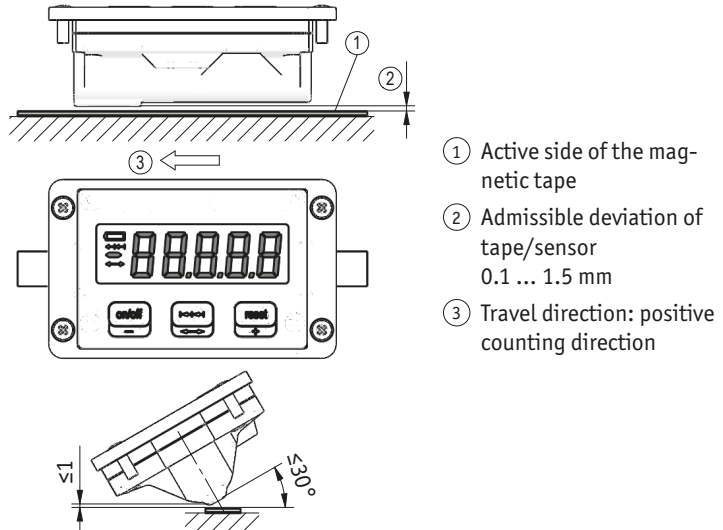

Fig. 8: Definition of the counting direction with magnetic tape and with integrated sensor / magnetic tape, gap measure, tolerances
- ▶ Take care that the electronic display with integrated magnetic sensor is aligned correctly in order to ensure optimum sensing (see Fig. 8).